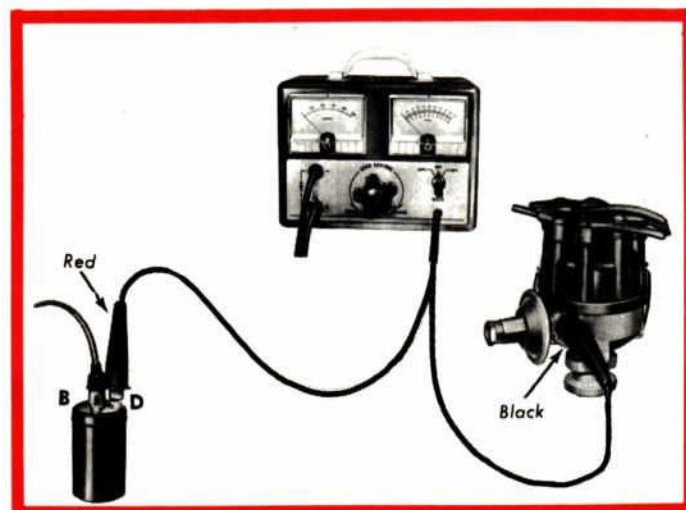

Figure 7—Coil to Ground Test
1. Connect the voltmeter leads as shown in Figure 7.